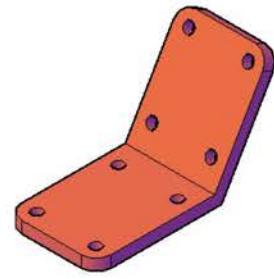

Fig. 18.6 First example – changing UCS planes
FIRST EXAMPLE – CHANGING UCS PLANES (FIG. 18.6)
10. Place the 3D model in a **ViewCube/Isometric** view and set in the **Conceptual** visual style (Fig. 18.6).